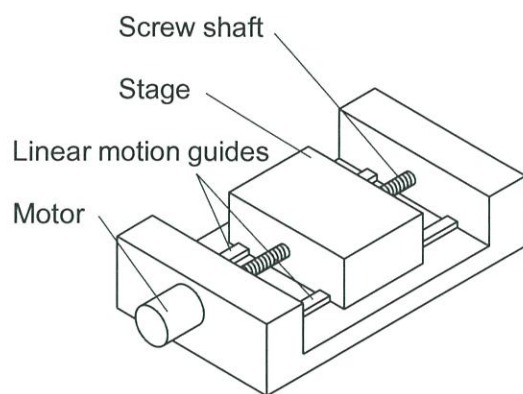
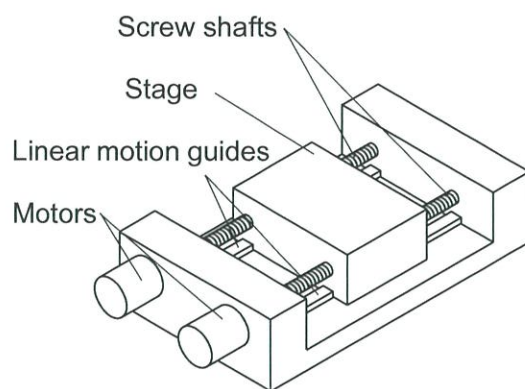

Figure 3-1
Figure 3-2
- (1) A feed screw must have an appropriate clearance in the axial direction between the external thread and the internal thread. Describe the problems likely to occur during the feed screw operation in the following two cases: the clearance is larger and the clearance is smaller than the appropriate clearance, in approximately 20 words, respectively.
- (2) To move the stage of a feed screw, a screw shaft is usually used in combination with linear motion guides, as shown in Figure 3-1. When two pairs of motors and screw shafts are arranged in parallel as shown in Figure 3-2, describe the problems likely to occur during the feed screw operation with reasons, in approximately 20 words.
- (3) Describe two methods of manufacturing metal screw shafts. Explain the advantages of each method with reason, in approximately 15 words, respectively.